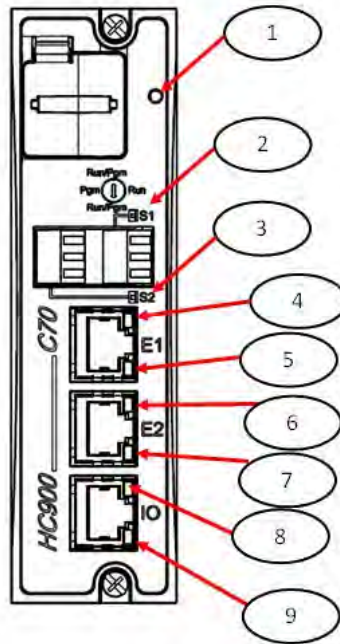

Figure 85 – LED Indicators on Controller CPUs (See Table 26)
When the Controller Status LED (Figure 85 on page 162, item 1) is flashing red, consult Table 27.